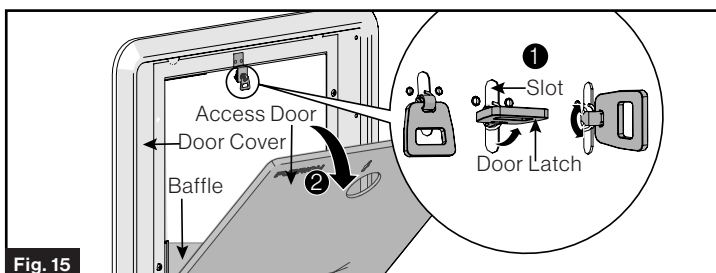

Fig. 15
- Remove the access door and frame from the box, separate the components. (Fig. 15)
- Step ①: separate the access door from the mounting frame. Lift the latch and rotate 90° to unlock the door cover from the trim.
- Step ②: Pull the access door from the mounting frame.